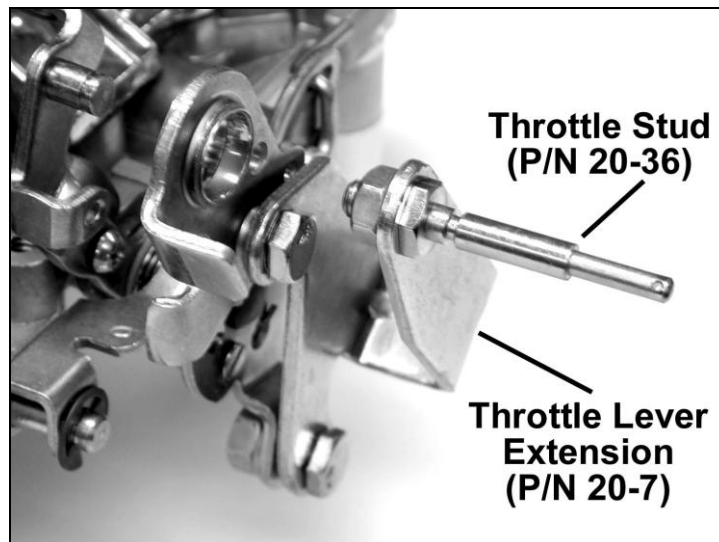

Figure 1—Chrysler applications
1. Unless you are replacing an existing Holley® carburetor (which already has a lever extension arm), you may need to purchase and install a throttle lever extension (Holley® P/N 20-7) on the carburetor. Remove the throttle stud and nut from the original carburetor. You can purchase a new stud from your Holley® dealer (Holley® P/N 20-36). Install the stud in the throttle lever extension (Figure 1). See the appropriate service manual for transmission adjustment.